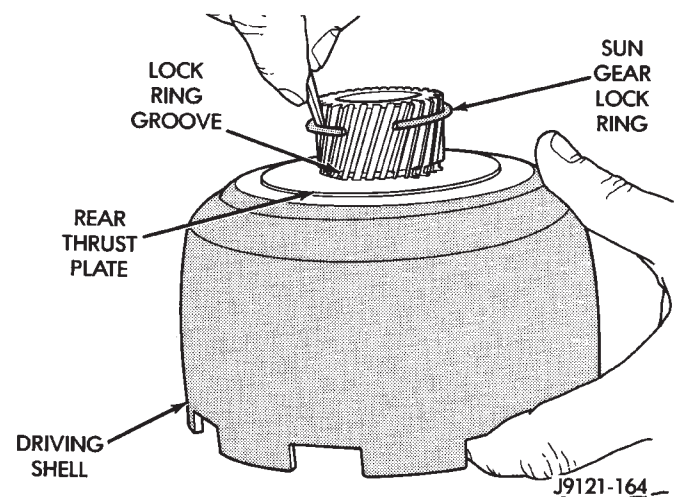

Fig. 77 Installing Sun Gear Lock Ring
(12) Align rear thrust plate on driving shell and install sun gear lock ring. Be sure ring is fully seated in sun gear ring groove (Fig. 77).